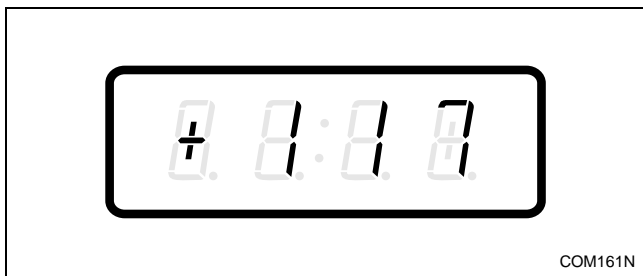

Figure 214
3. Press the DELICATES (+) or the COLD (-) keypad to scroll through the programmable options until “+117” appears in the VFD. Refer to *Figure 214*.